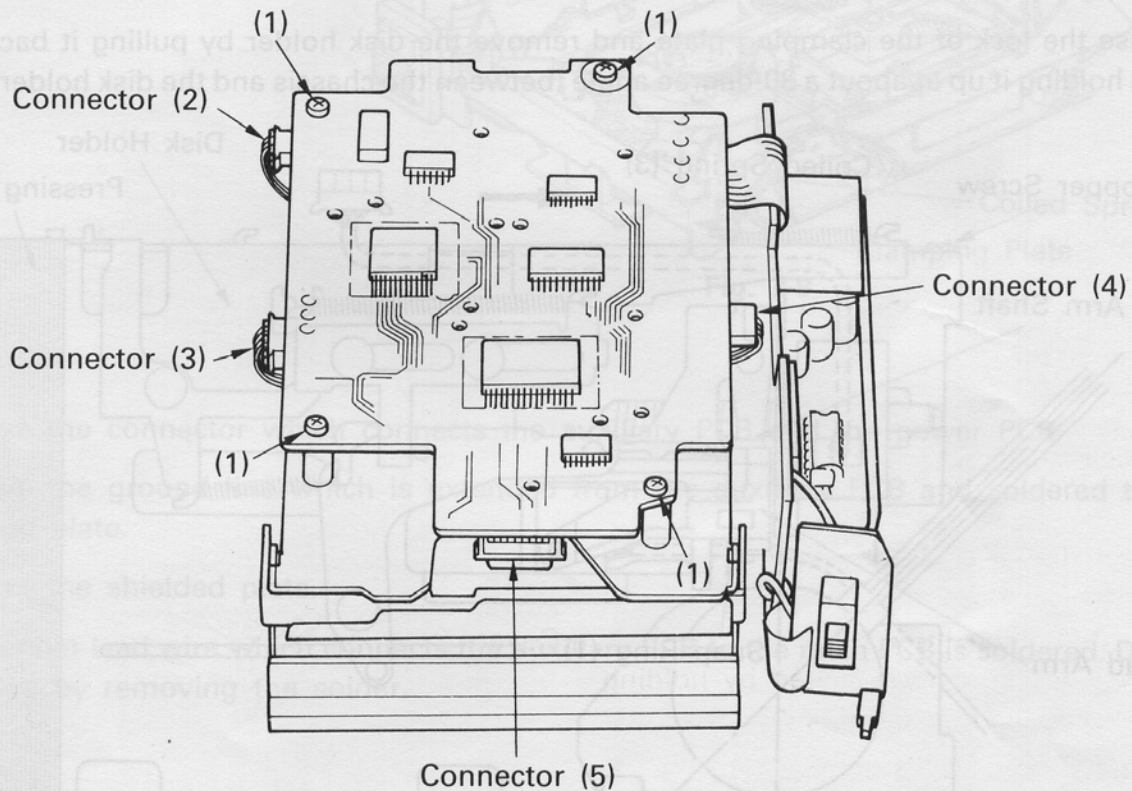
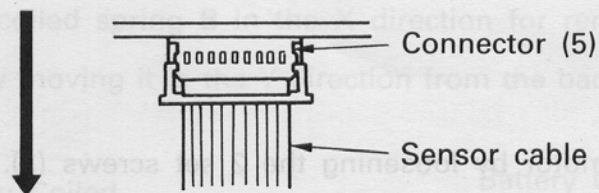

Fig. 3-5
Fig. 3-6
1. Refer to Fig. 3-5 and disconnect the 4 connectors (2), (3), (4) and (5).
2. Loosen and remove the 4 set screws (1).
3. As shown in Fig. 3-6, remove the sensor cable after pulling off the outer part of the connector (5) in the direction of the arrow.